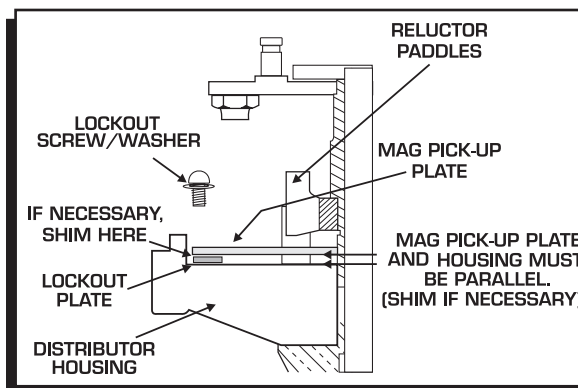

Figure 14 Checking Installation of the Lockout Plate.
6. It is important to make sure the pickup plate is parallel with the housing of the distributor (Figure 14). If it is cocked or slanted, the paddles of the reluctor may contact the pickup. Check the clearance by rotating the distributor shaft. If necessary, use the supplied shims under the Lockout hold-down to correctly position the pickup plate.